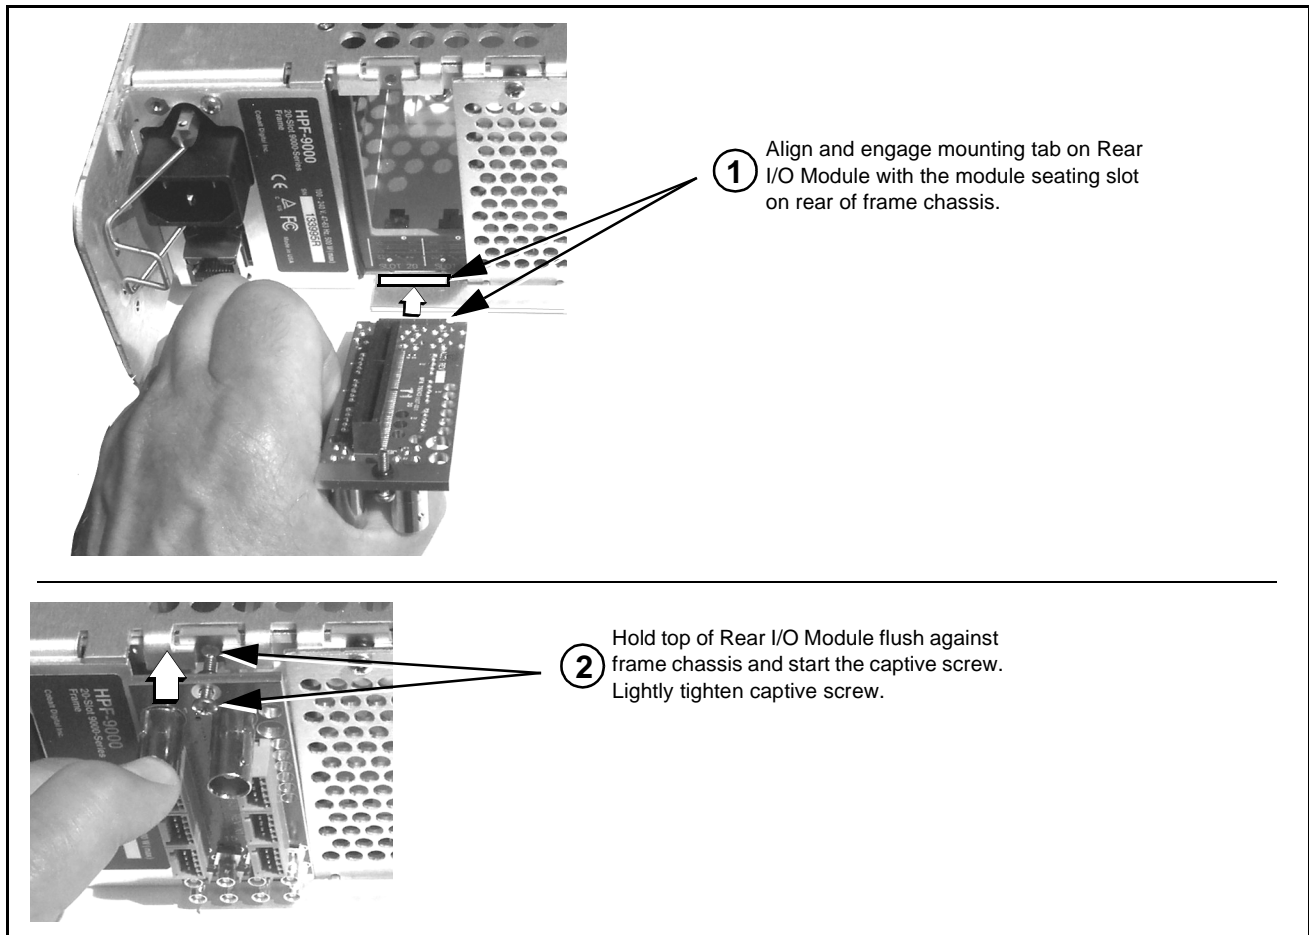

Figure 2-3 Rear I/O Module Installation
2. In the mounting area corresponding to the slot location, install Rear I/O Module as shown in Figure 2-3.